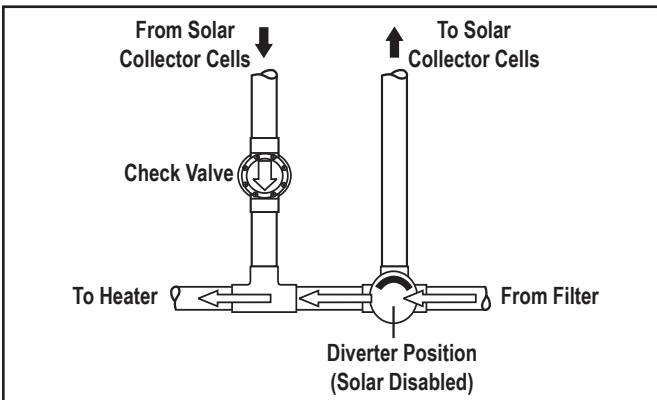

Figure 4. Diverter Valve Position (Solar Disabled)
3. Install the solar controller (not shown) per the manufacturer’s instructions and connect to the Jandy valve actuator on the Jandy 3-port diverter valve. The Jandy valve actuator must be adjusted to provide the diverter positions shown in Figures 4 and 5 in conjunction with the solar controller.